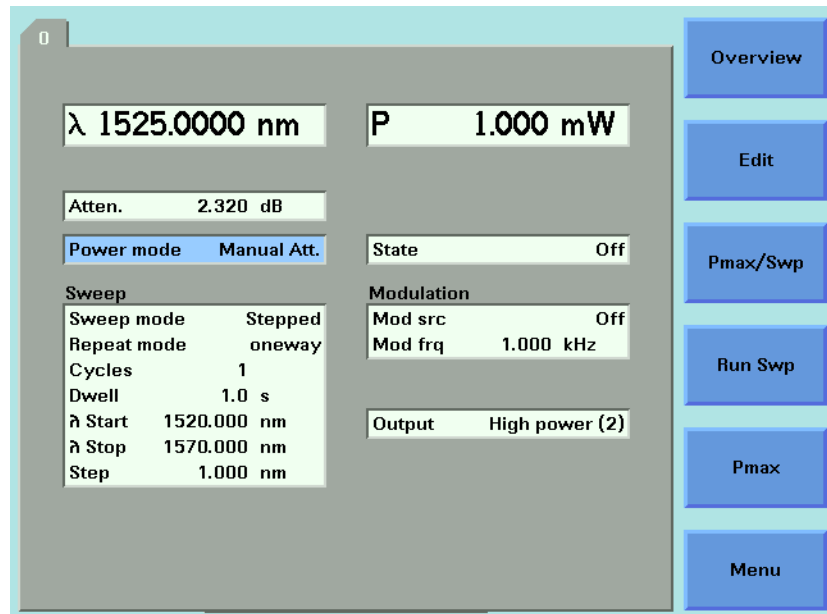

Figure 79 Setting Attenuation
- b Move to <Manual Att.> and press *Enter*. The attenuation parameter, [Atten.], appears, see Figure 79 on page -139.